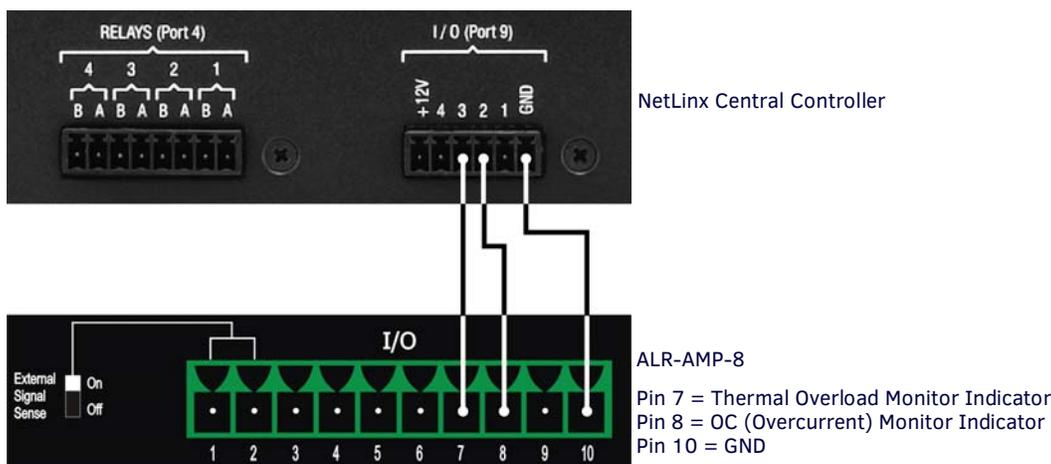

FIG. 15 Example - Thermal and OC Indicator Connections
- A Thermal Overload Indicator signal is output on **Pin 7** on the 10-pin I/O port. This pin connects to an I/O pin on an external controller such as a NetLinx Central Controller (see FIG. 15).
- An Overcurrent Monitor Indicator signal is output on **Pin 8** on the 10-pin I/O port. This pin connects to an I/O pin on an external controller such as a NetLinx Central Controller (see FIG. 15).